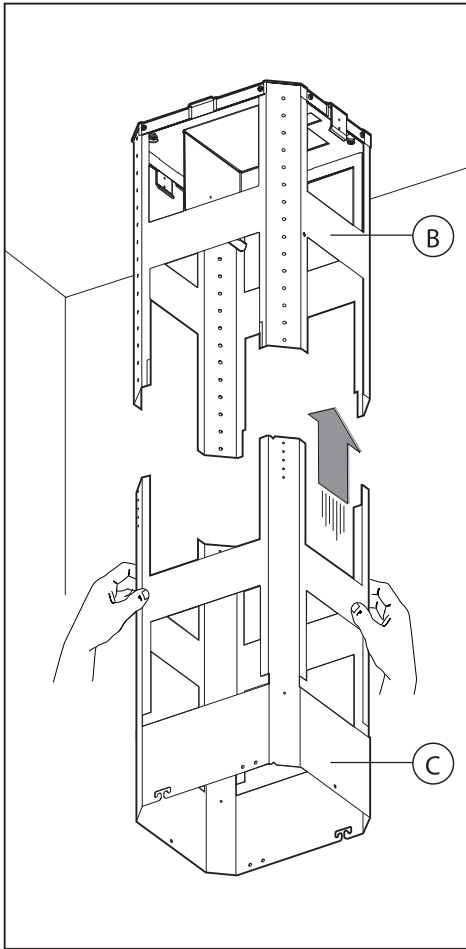
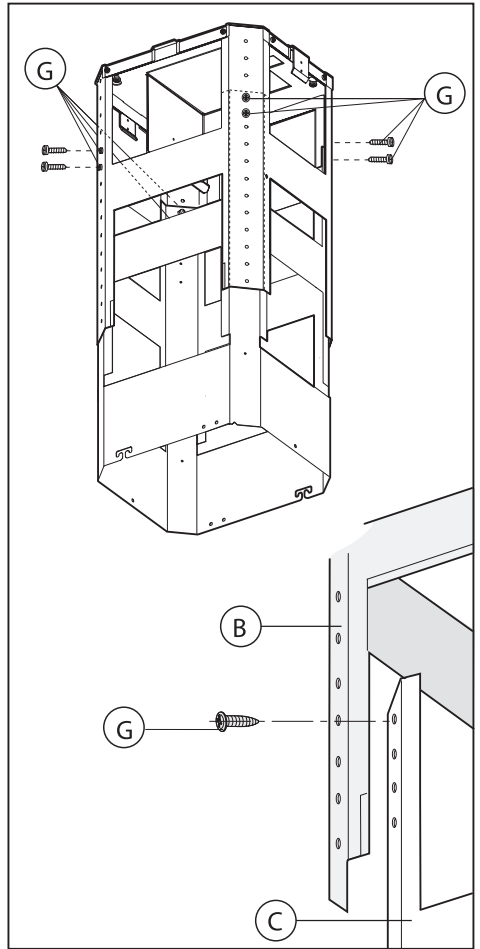
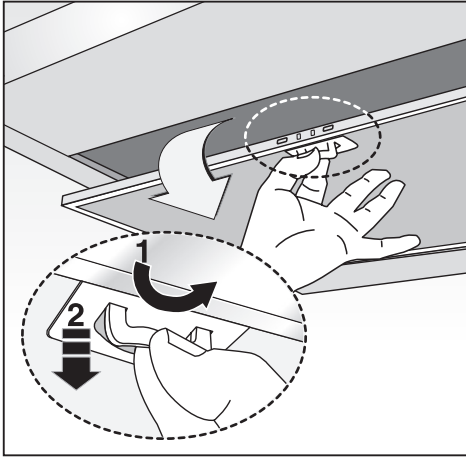

Fig.5
Fig.6
Fig.15
• If the hob is electric, gas, or induction, the minimum distance between the same and the lower part of the hood must be at least **65 cm**. If a connection tube composed of two parts is used, the upper part must be placed outside the lower part. Do not connect the cooker hood exhaust to the same conductor used to circulate hot air or for evacuating fumes from other appliances generated by other than an electrical source. Before proceeding with the assembly operations, remove the anti-grease filter(s) (Fig.15) so that the unit is easier to handle.
-Take the lower part of the telescopic structure **C** and insert it into the upper structure **B** (Fig.5). Adjust the height by referring to the amounts indicated in (Fig.15) and block it using the 8 screws **G** that are supplied (Fig.6).
-If the cooker hood is supplied with a lower chimney piece that must be fixed to the hood body with screws, remove the anti-grease filters from the hood by acting on the relevant handles (Fig.15).